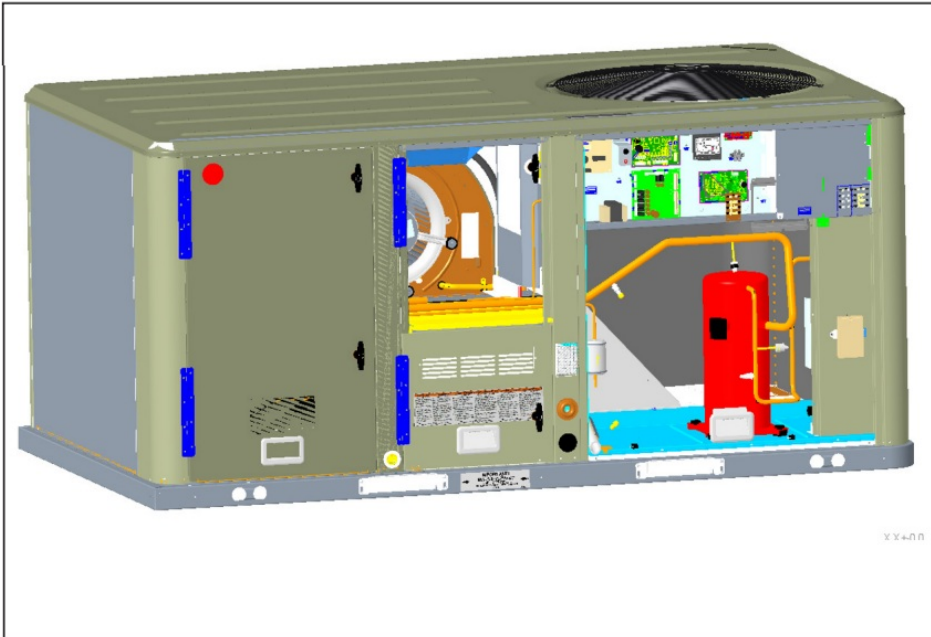
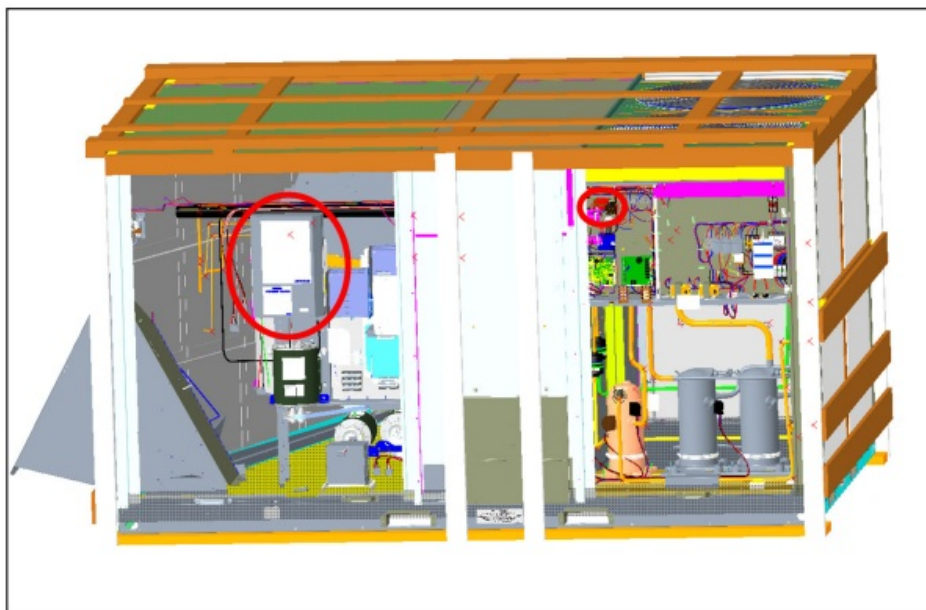

Figure 2: Precident™ – Drive and Interface Module Mounting Locations
Figure 3 : Voyager™ 2 – Drive and Interface Module Mounting Locations
3. Open the middle upper and condenser side panels on the front side of the unit. Refer to Figures 2 and Figure 3 for location.
10. Open the Control Box panel. Refer to Figure 2 and Figure 3 for location.